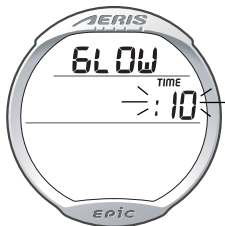

Fig. 61 - SET BACKLIGHT DURATION
**SET BACKLIGHT DURATION** information includes (Fig. 61):